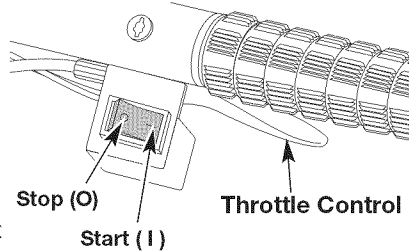

Fig. 6
NOTE: There is no need to turn the unit on. The On/Off Control is in the ON (I) position at all times (Fig. 6).
2. Press and hold On/Off Control in the OFF (O) position until engine comes to a complete stop (Fig. 6).